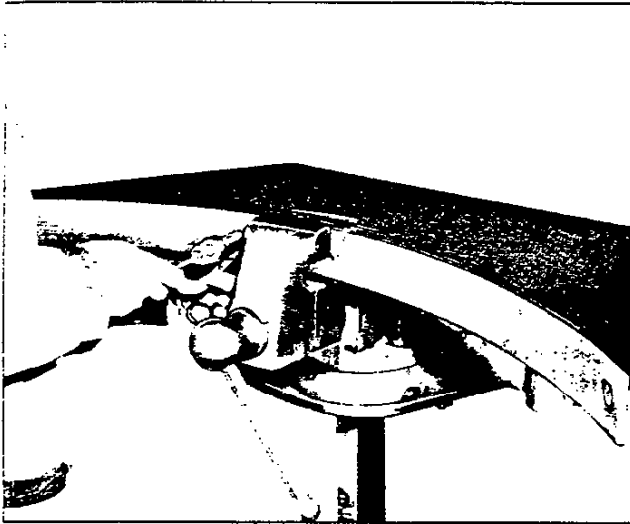

Fig. 21—Removing Center Bolt
1. Clamp spring center section in vise and remove center bolt (fig. 21).